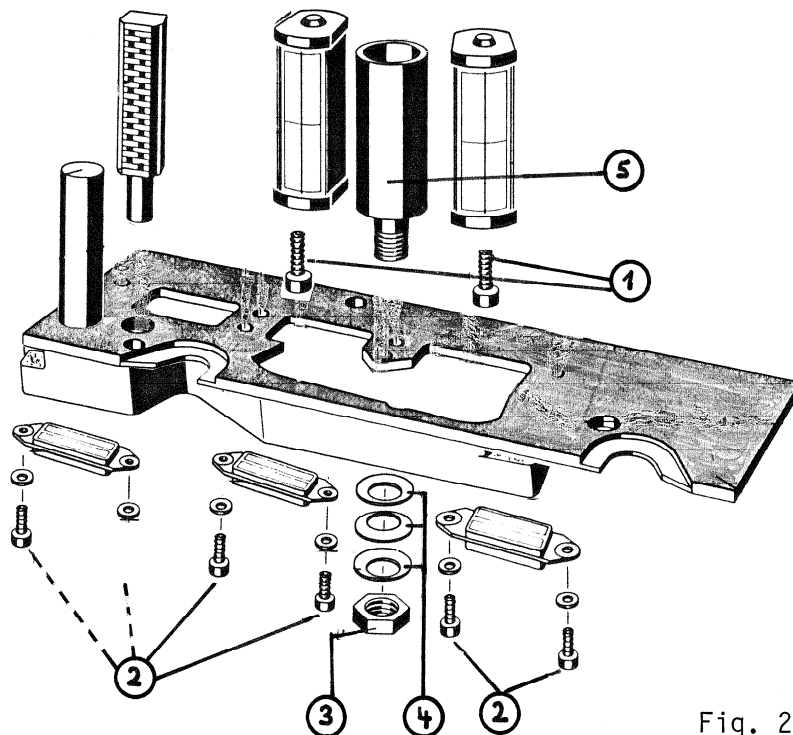

Fig. 2
If the wide headblock was already equipped with an Inline-erasehead, remove it also and fix it on the new headblock. (Figure 2)
6. Unscrew the nut (3) (18 mm) and place the anti-scrape flutter roller (5) on the new headassembly (see figure 2).
Bild 2 leicht lösen, um Kopf drehen zu